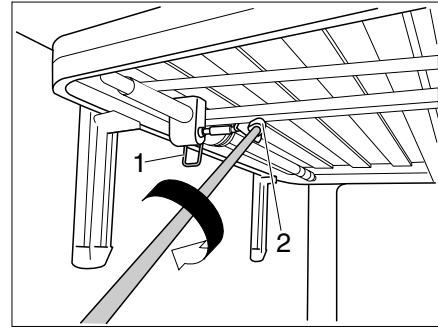

Fig. 150 Height adjustment
- Loosen the locking lever (Fig. 150,1). The bed can now be adjusted.
- Slide the crank into the magnetic square recess (Fig. 150,2). The height of the bed can now be changed.
- Pull the crank out of the square recess (Fig. 150,2) and keep it in the holder.